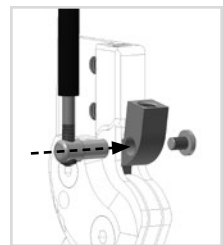

fig. 5
- 1 Secure the threaded sleeve (3) on the pulling cable.
- 2 Push the pulling cable from below through the pulling cable holder (2). The threaded sleeve (3) should be flush with the holder and no longer be visible.
- 3 Place the pulling cable holder (2) into the bore of the locking pawl (fig. 5).
- 4 Secure the pulling cable holder (2) with the pan head screw (1). Secure the pan head screw with LOCTITE® 243 medium strength.